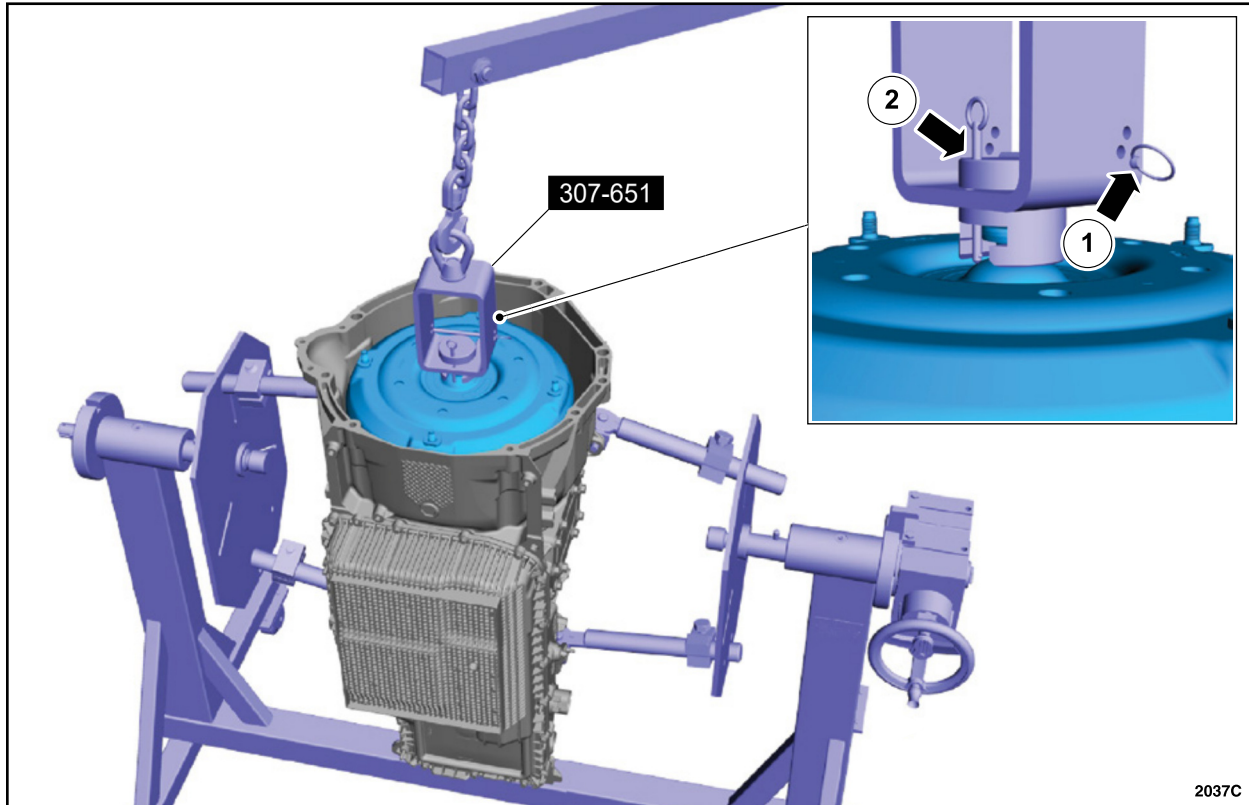

FIGURE 34
38. Using special tool 307-651 and a floor crane, install the torque converter. See Figure 34.